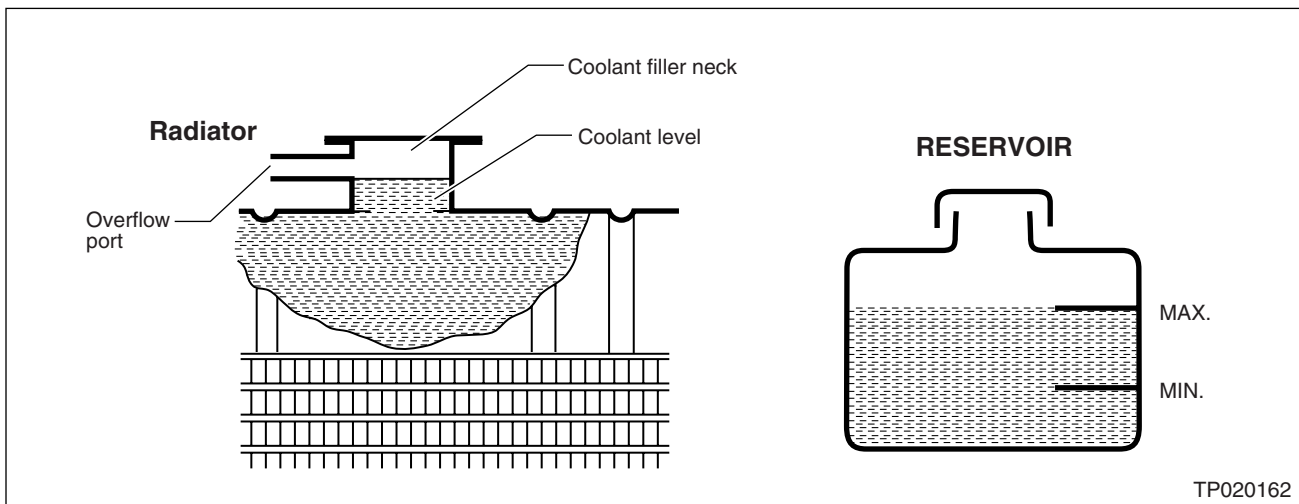

Figure 4
1. Check the coolant level in the radiator (see Figure 4, next page).
2. Slowly fill the radiator and reservoir tank to the specified level (see Figure 4).
- Confirm the reservoir tank is filled to the MAX level line with the specified coolant mixture (see Figure 4 on page 7).
18. Fill the radiator with the specified coolant mixture to the top of the filler neck (see Figure 4 on page 7).